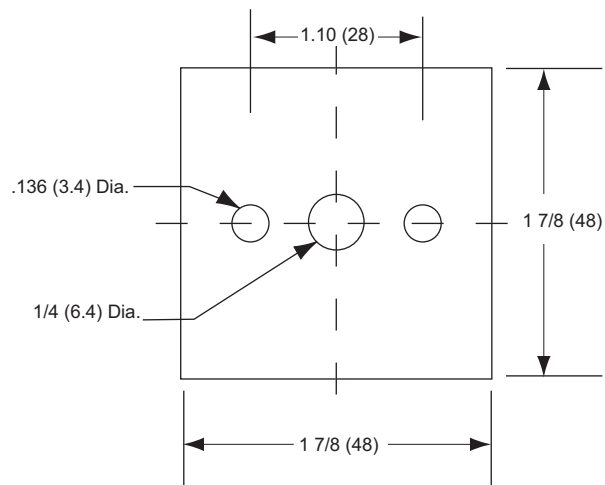

Figure-7 AM-706 Mounting Dimensions.
1. Drill the three holes (Figure-7).